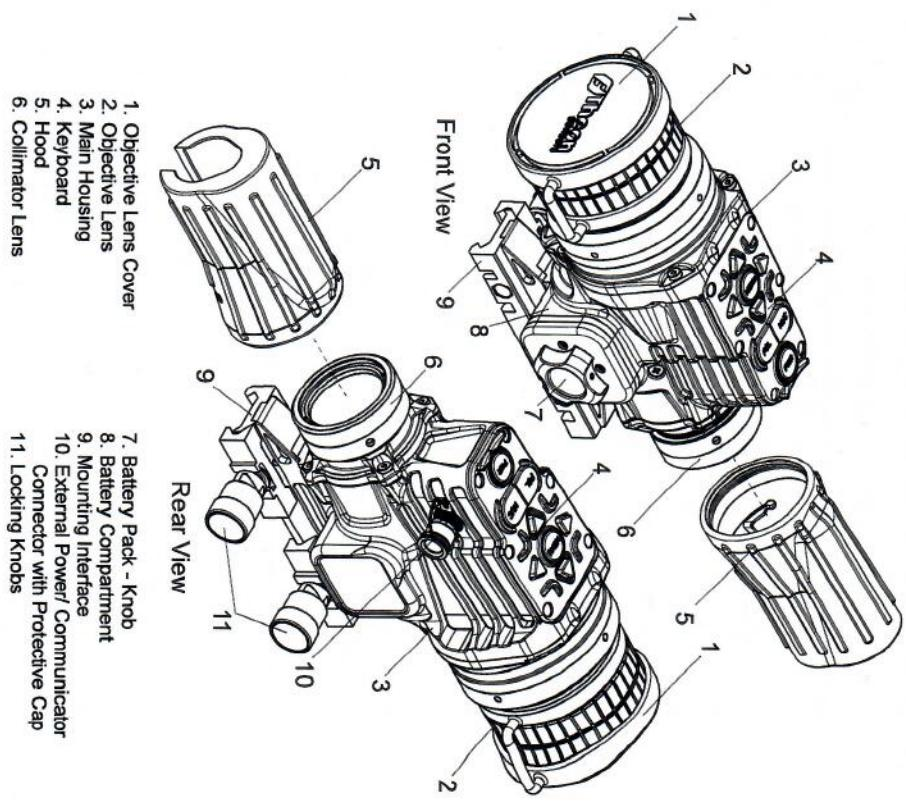
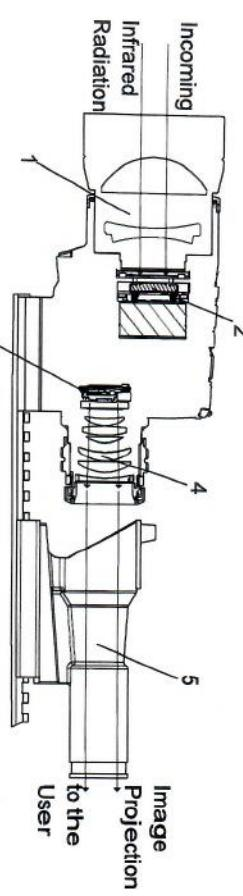

Figure 3. Location and Description of Major Components
Figure 5. Optical Function Diagram.
The optical functions of THERMIS include the Objective Lens, the Thermal Sensor, the OLED Display and the Collimator Lens (Figure 5).
The Objective Lens (Fig.5/1) collects the infrared radiation of the observed scene and focuses it onto the Thermal Sensor (Fig.5/2). The Thermal Sensor receives, processes and transforms, via the electronics of the THERMIS Thermal Engine, the infrared scene and projects it on the OLED display (Fig.5/3). Finally, the transformed thermal scene is projected by the Collimator Lens (Fig.5/4) to the Day Sight (Fig.5/5) and the user sees through it the thermal scene. The Collimator Lens (Fig.5/4) is factory-set to have the same focal length with the Objective Lens (Fig.5/1), resulting in 1X system magnification. THERMIS Thermal Clip-On Sight can be used in both daytime and nighttime conditions, even in complete darkness in the observed scene.
Objective Lens Cover (Fig.7/1)	Covers and protects the Objective Lens (Fig.3/2) from scratches and dirt, as well as from the exposure to very bright light. The Objective Lens Cover (Fig.7/1) must always be installed on the Objective Lens (Fig.3/2) when THERMIS is not in use.
ive Lens Focus Ring (Fig.7/2)	Focuses the Objective Lens (Fig.3/2) of Thermis covering a range from 10-20 m (depending on the specification) till infinity. Rotate the Objective Lens Focus Ring (Fig.7/2) to focus THERMIS to objects at different distances.
Hood (Fig.7/4)	Prevents stray light from entering the Day Sight (Fig.5/2) and prevents exposure of the operator due the glow coming out of the Collimator Lens (Fig.3/6) from the operating OLED Display.
7. Move THERMIS (Fig. 20/1) on the Weapon's Picatinny Rail (Fig. 20/4) so that it is located at least 1 or 2 slots distance from the Day Sight (Fig. 20/3). If necessary, rearrange the Hood (Fig. 20/2) to prevent stray light from entering the Day Sight (Fig. 20/3) and prevent exposure of the operator due the glow coming out of the Collimator Lens (Fig. 3/6).
-EXTERNAL SHUTTER NUC (Non-Uniformity Correction): Cover the thermal Objective Lens (Fig.3/2) with the Objective Lens Cover (Fig.7/1) and Long-press (for 2 sec) the "NUC" Button (Fig.7/14) until the External Shutter NUC takes place. This is the best NUC option available (compared to the Quick NUC) as it takes additionally into consideration the imperfections of the Objective Lens (Fig.3/2).